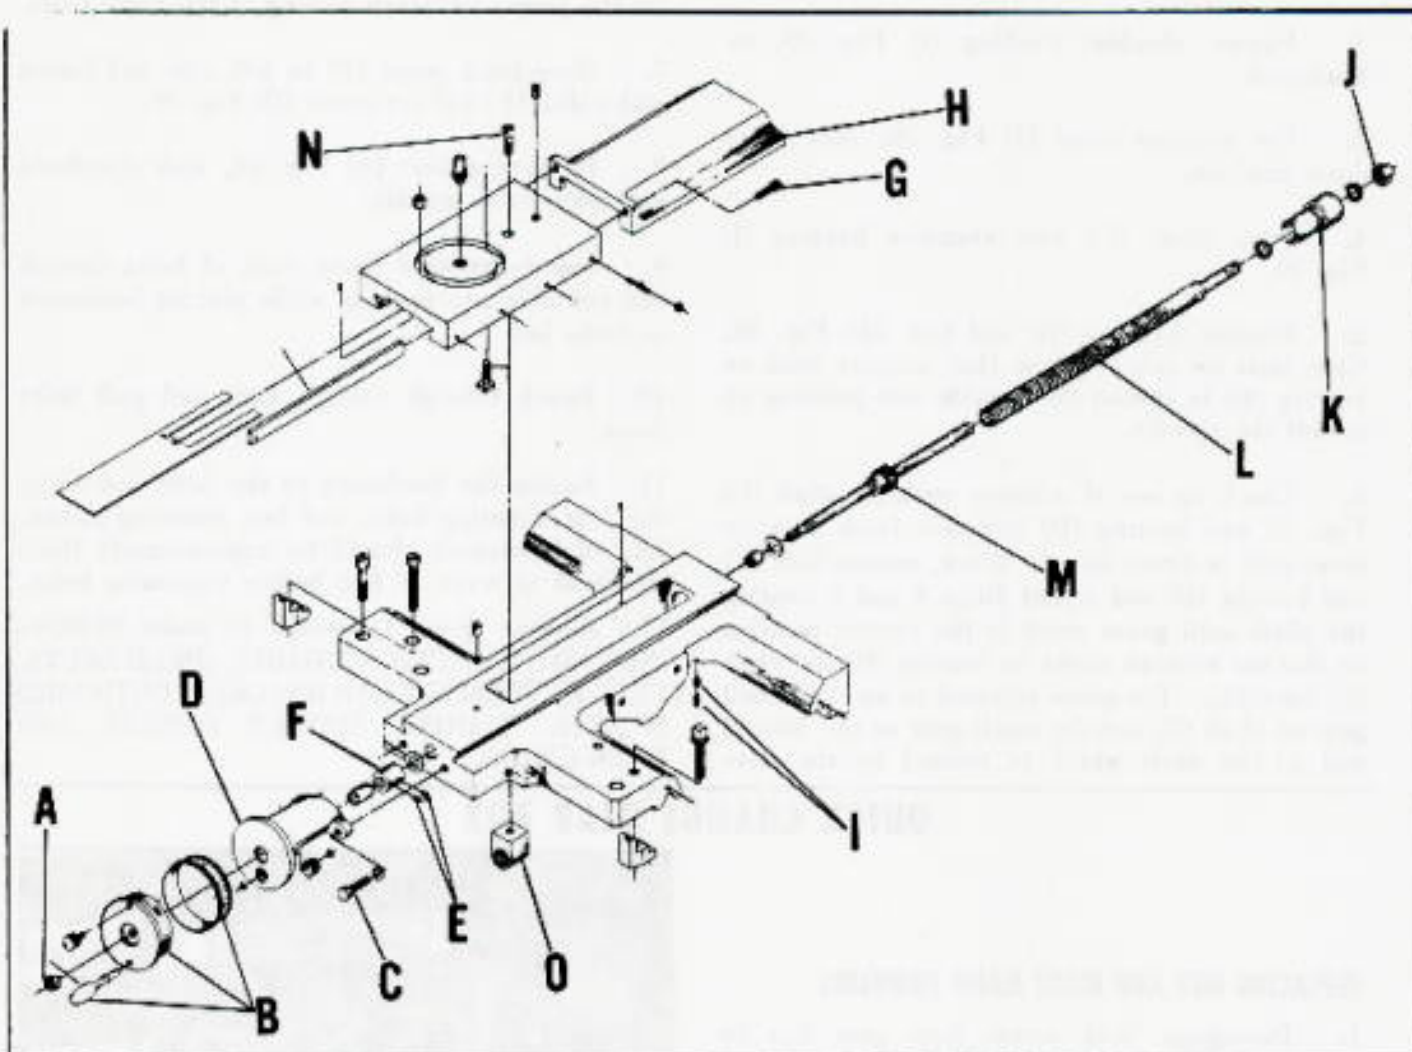

Fig. 42.
1. Remove nut (A) and handwheel assembly (B) Fig. 42.
2. Remove two screws (C) and flange (D) Fig. 42.
3. Loosen two set screws (E) and remove collar (F) Fig. 42.
4. Remove two screws (G) and remove cover (H) Fig. 42.
5. Remove two set screws (I) Fig. 42.
6. Remove nuts (J) and bushing (K) Fig. 42.
7. Remove the feed screw (L) and feed shaft (M) Fig. 42 by threading them out through the rear.
8. Remove screw (N) and feed nut (O) Fig. 42.
9. When reassembling make sure the feed screw (L) runs freely through the feed nut (O) before tightening screw (N) Fig. 42.